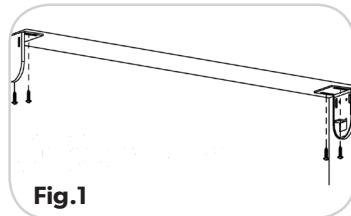

Fig.1
Please take a moment to review the parts list before beginning the steps below. Your Spring Operated Outdoor Roller Shade can either be hung from the top of a surface i.e. window frame, (Fig. 1) or side mounted on the inside surface of a wall, patio or porch. Regardless of how you choose to install the shade, the installation instructions remain the same.
- Install the mounting brackets to the top of a surface or inside of the surface area using the wood screws provided. (Fig. 1)